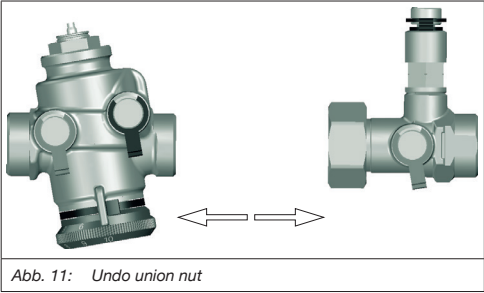

Abb. 11: Undo union nut
- Undo the union nut (see Abb. 11).